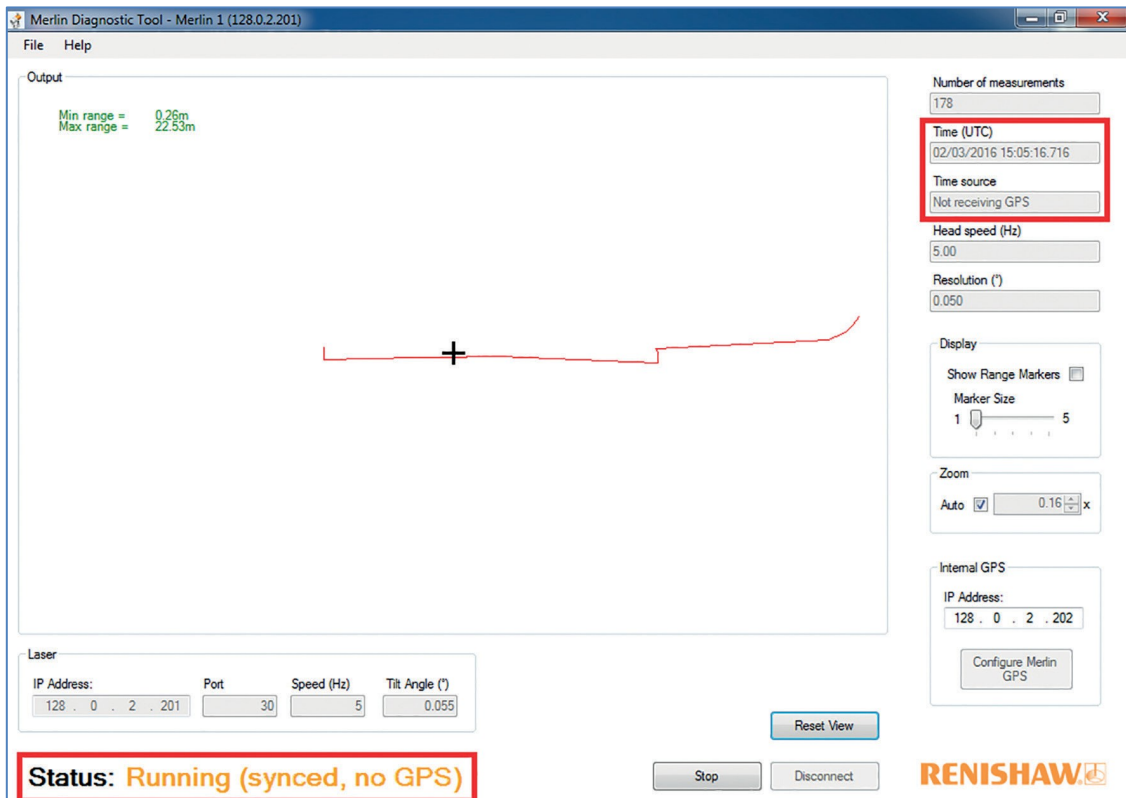

Figure 42 Status: Running (synced, no GPS)
- If the Status is **Running (synced, no GPS)** this means the Time source has been **GPS** but that a GPS outage has occurred: see Figure 42. The laser data continues to be time-tagged but a valid GPS sync is not present. The Status reverts to **Running (uninitialised)** after 30 seconds..